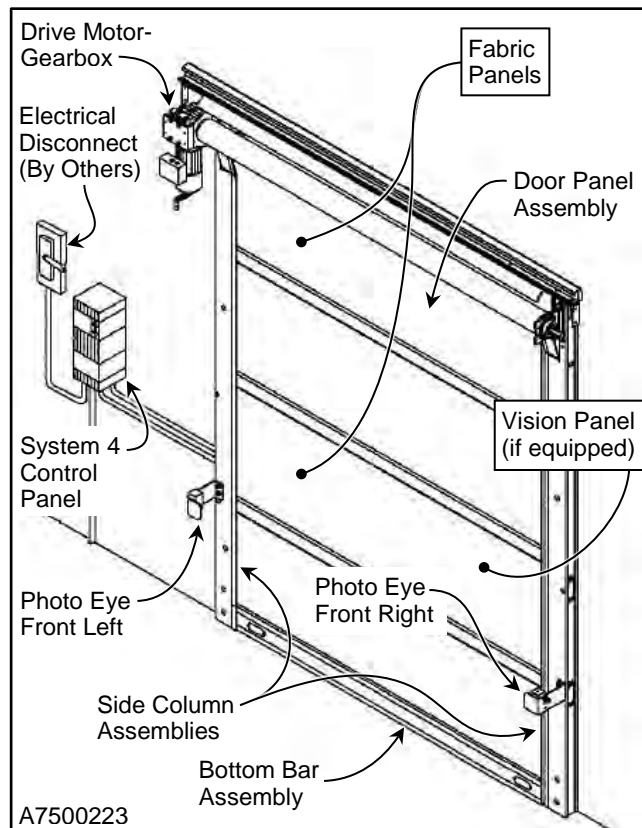

Figure 61
3. To ensure the correct parts are shipped, please include the serial number of your door with the order. The serial number is located on the door in several locations per the "DOOR SERIAL NUMBER(S)" section (See page 1). All these serial numbers must match. (See Figure 61)